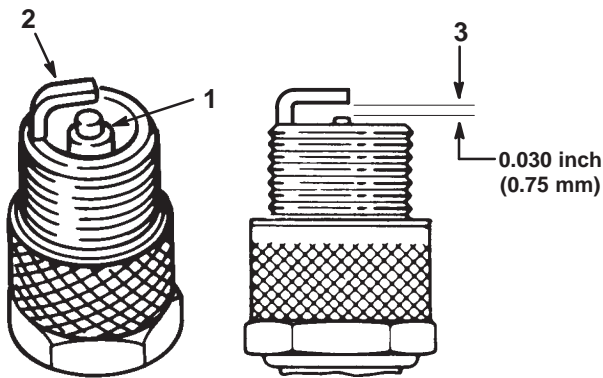

Figure 33
1. Look at the center of the spark plugs (Fig. 33). If you see light brown or gray on the insulator, the engine is operating properly. A black coating on the insulator usually means that the air cleaner is dirty.
2. Check the gap between the center and side electrodes (Fig. 33). Bend the side electrode (Fig. 33) if the gap is not correct.